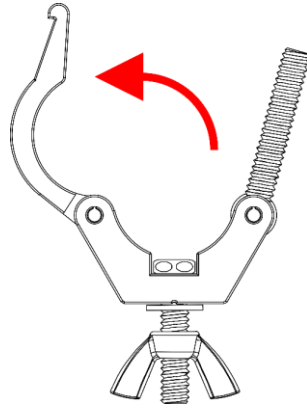

Fig. 04
- 01) Turn the **hex nut (01)** counterclockwise to remove it.
- 02) Turn the **wing nut (02)** counterclockwise to remove it.
- 03) Open the **lock (11)**. See Fig. 04.